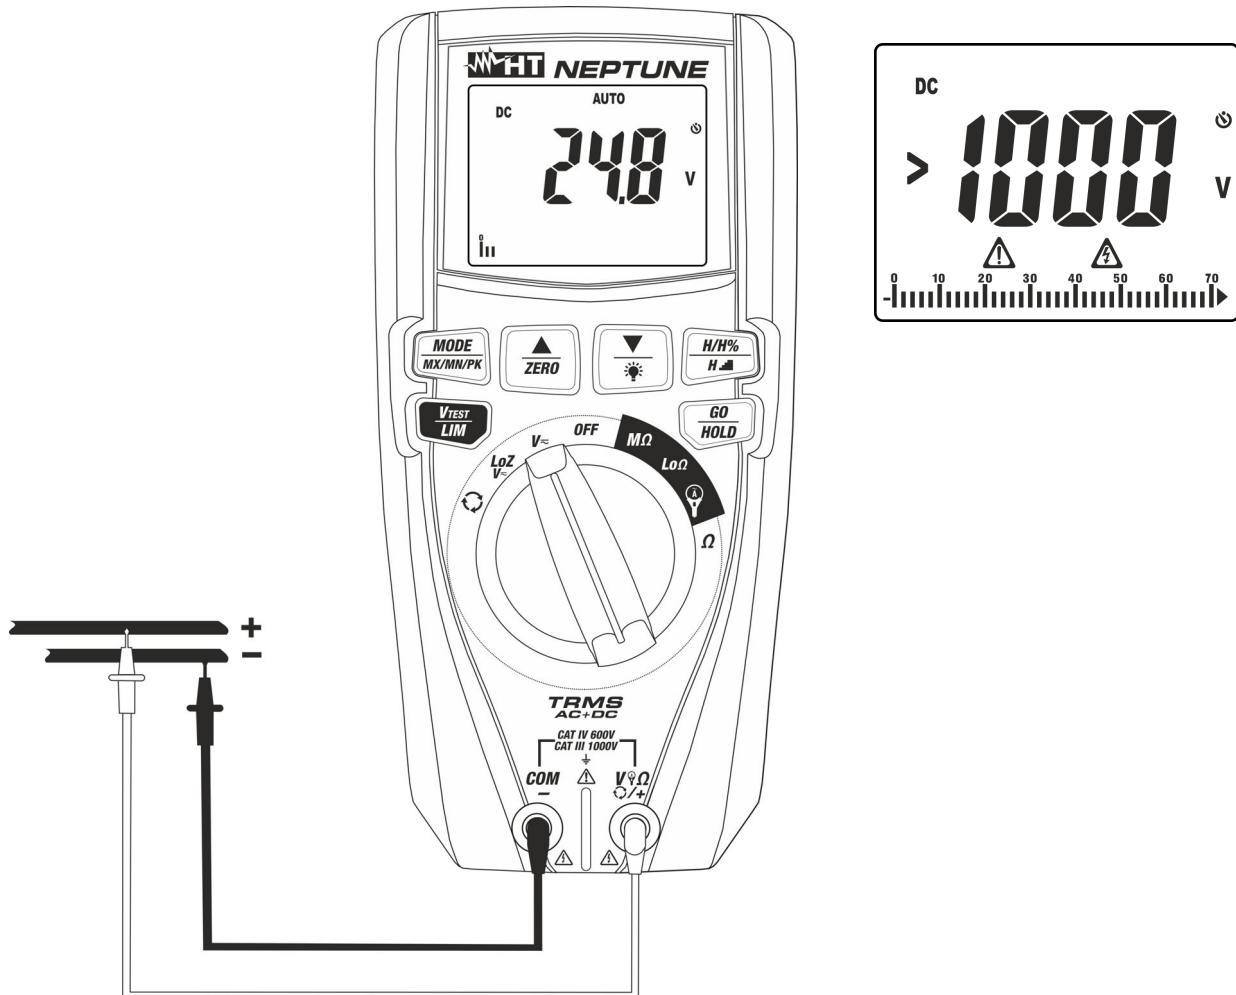
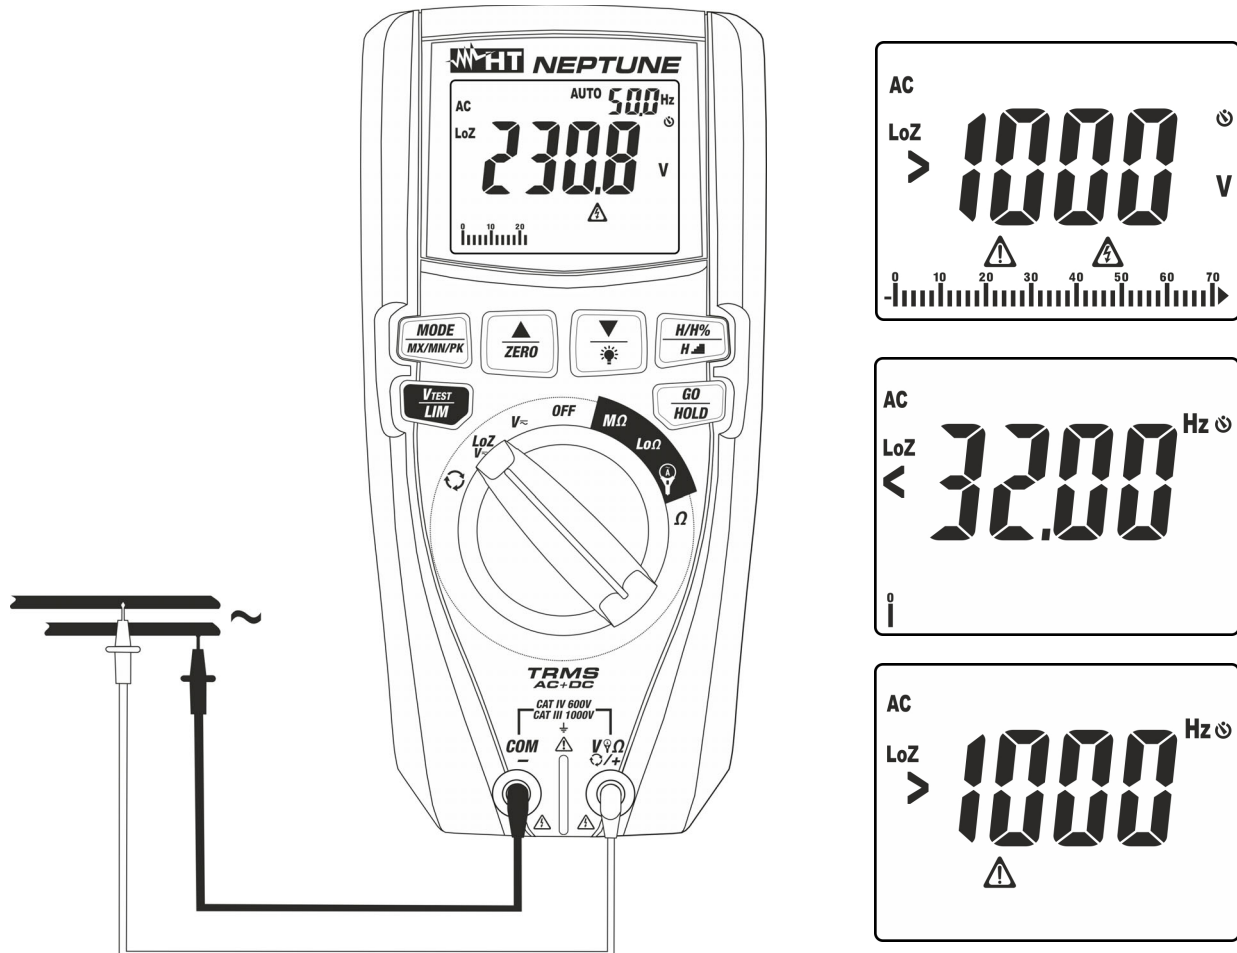

Fig. 6: Use of the instrument for DC voltage measurement
Fig. 8: Use of the instrument for AC/DC voltage measurement with LoZ function
3. Position the red lead and the black lead respectively in the spots with positive and negative potential of the circuit to be measured (see Fig. 6). The display shows the value of voltage.
4. If the display shows the message **>1000V** (see Fig. 6), the maximum measurable value has been reached.
5. When symbol **"-"** appears on the instrument's display, it means that voltage has the opposite direction with respect to the connection in Fig. 6.
4. Position the red lead and the black lead respectively in the positions of the circuit to be tested (see Fig. 8) for AC voltage measurement or in the positions with a positive or negative potential of the circuit to be tested (see Fig. 6) for DC voltage measurement. The display shows the value of voltage. On the top of the display on the right side, the value of voltage frequency is displayed. Press key **MODE/MX/MN/PK** to display the value of frequency with a higher resolution.
5. If the display shows the messages "**<32Hz**" or "**>1000Hz**" (see Fig. 8), the value of frequency is out of the measuring range **32Hz ÷ 1000Hz**.
6. When symbol "-" appears on the instrument's display, it means that voltage has the opposite direction with respect to the connection in Fig. 6